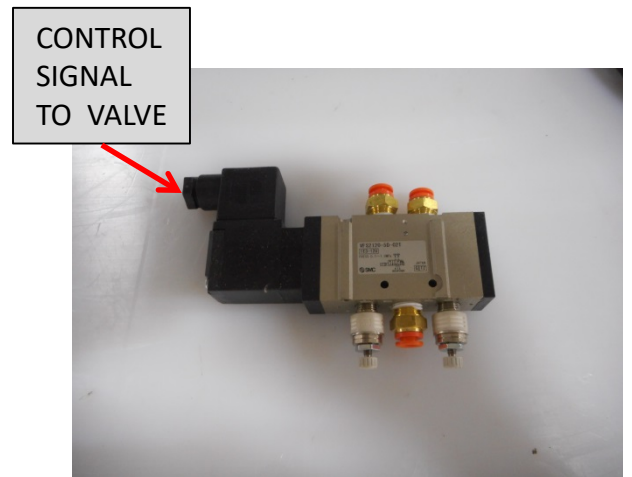

Fig. 5
5. Attach input control signal wire to control valve. ( Confirm that input signal and valve type match, ex. 24VDC or 110VAC. ) (Fig 5)